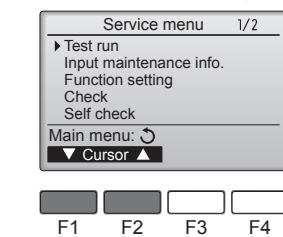

Fig. 7-3
- ③ Select "Test run" with the [F1] or [F2] button, and press the [RETURN] button. (Fig. 7-3)